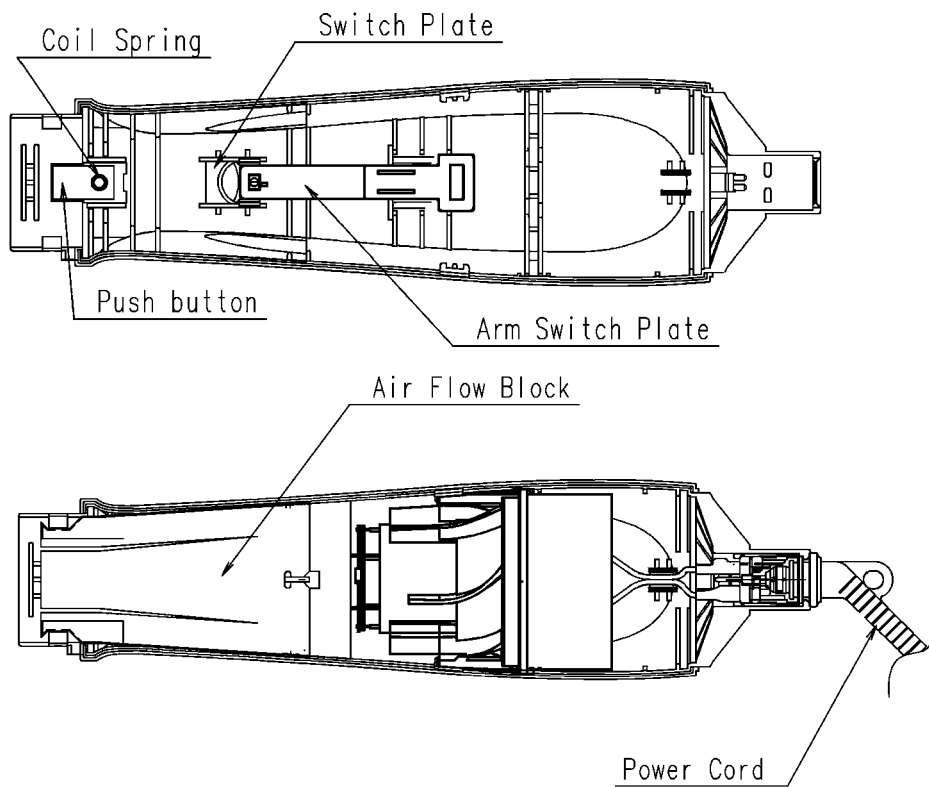

Figure 8
6. Assembly Parts into Housing B step by step as show in figure 8.